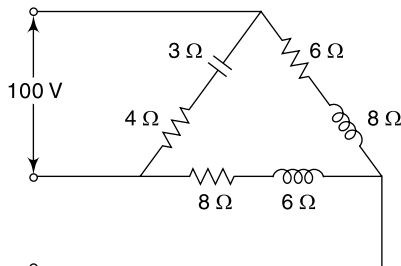

Fig. 7.35
4. For the unbalanced delta connected load shown in Fig. 7.35 find the phase currents, line currents and the total power consumed by the load.